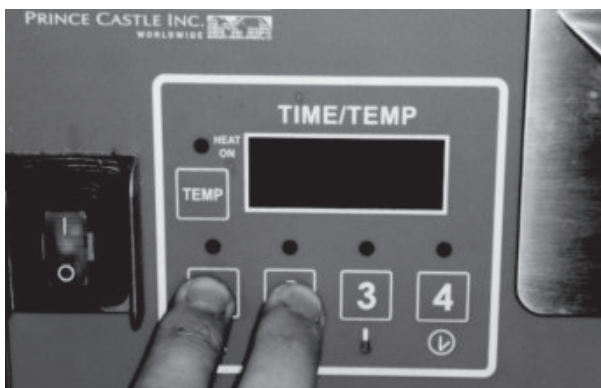

Figure 3
1. Turn off the power switch. Press and hold both the UP(1) and DOWN(2) arrow buttons on the left display while the power switch is turned on (see Figure 3). The display will show SEt.